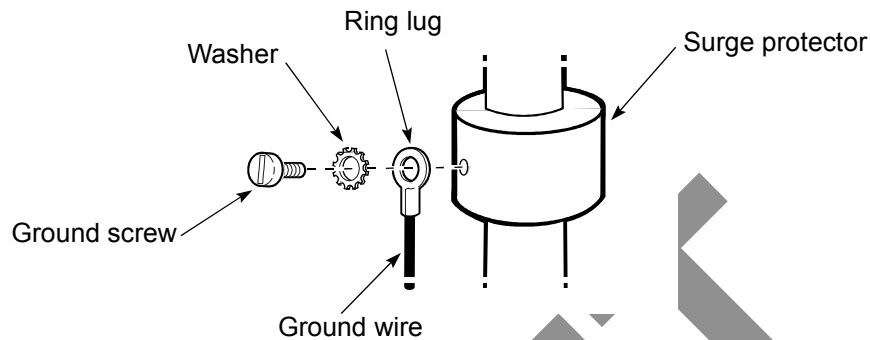

Figure 21 – Surge protector ground connection
2. Add a ring lug to one end of the ground wire, and connect it to the surge protector, as shown in *Figure 21*.